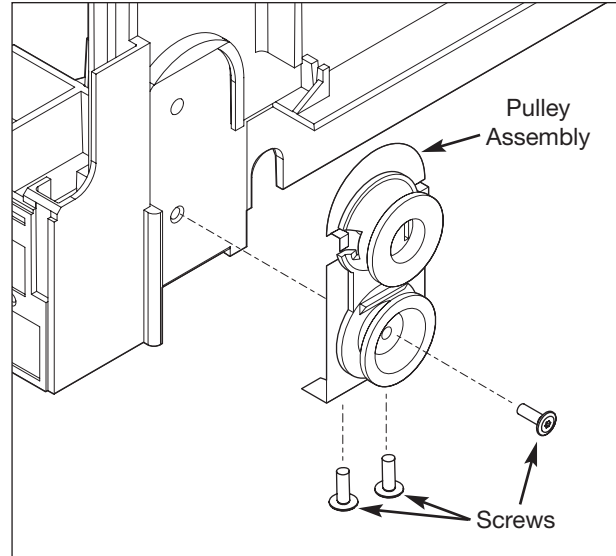

Figure 5-13. Pulley Assembly Removal
4. Using a #20 Torx bit, extract the two screws securing the pulley assembly to the bottom of the unit frame. (See Figure 5-13)